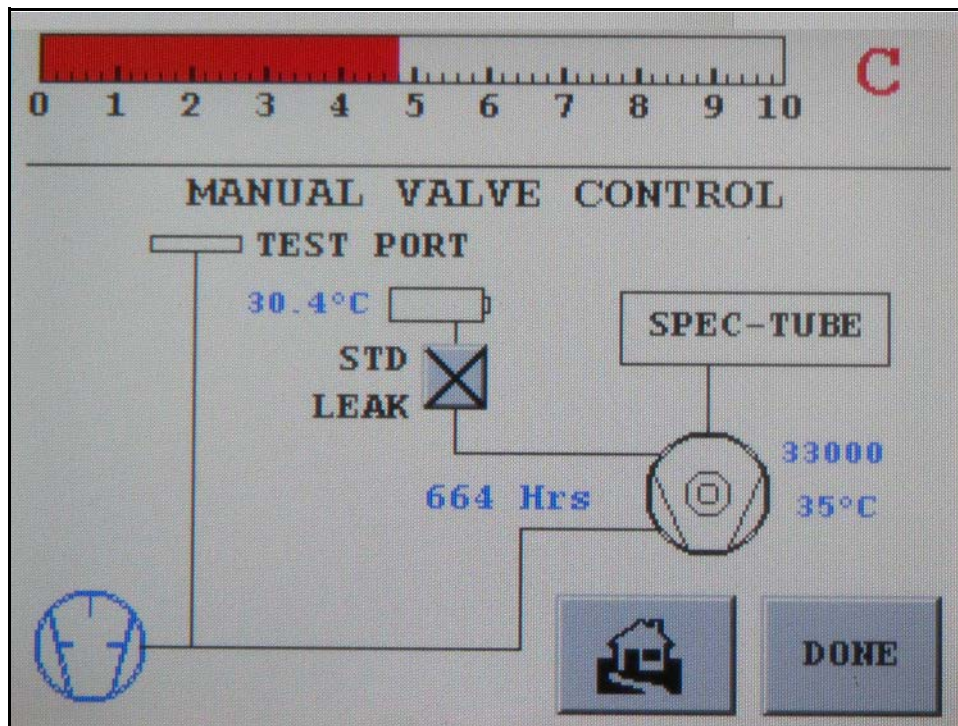

Figure 2-18 Manual Valve Control screen
1. Press **Valve Control** on the Set-Up screen and the Manual Valve Control screen appears (Figure 2-18).